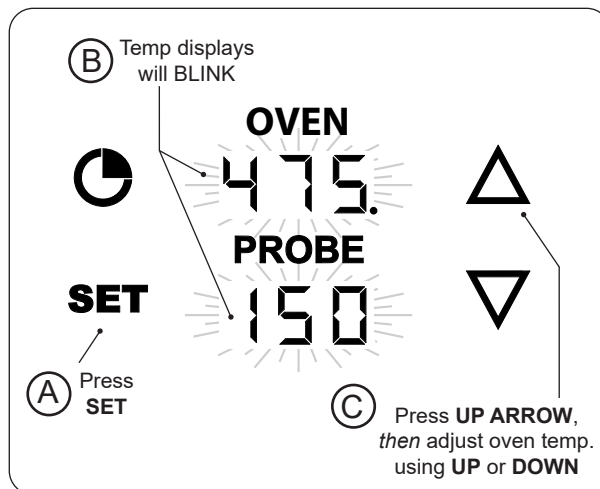

Fig. 34-1 Set grilling temp.
1. With the thermometer **on**, press the **SET** button once. The **OVEN** and **PROBE** displays will blink. (While blinking, either area can be selected to enter their settings.) See Fig. 34-1, A and B.
2. Press the **UP ARROW** to select the oven temp settings, then use the up or down arrows to set the desired temp. (Fig. 34-1, C).